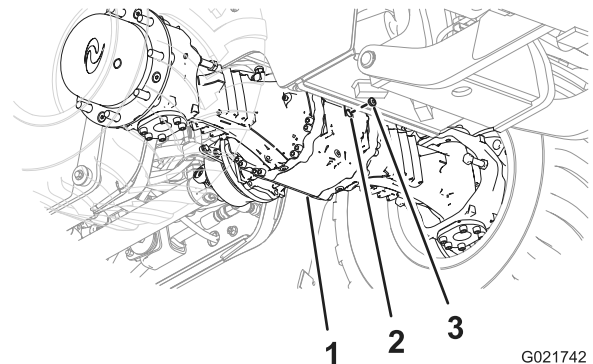
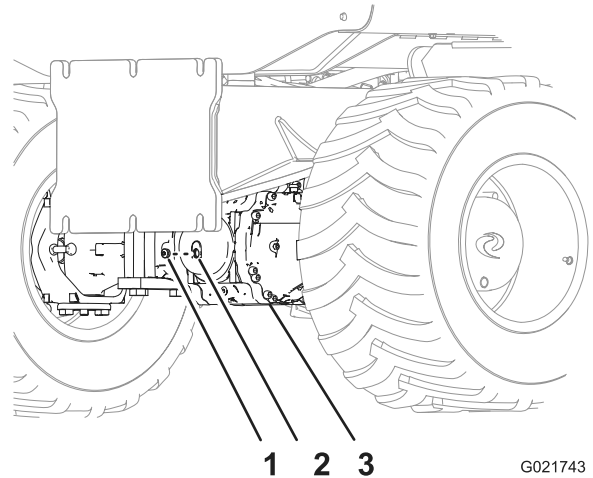

Figure 66
Figure 67
- Look through the sight port and check that the oil level in the axle is level with the bottom of the threads of the port (Figure 66 and Figure 67).
- Install the sight plug into the sight port in the pinion housing of the axle (Figure 66 and Figure 67).